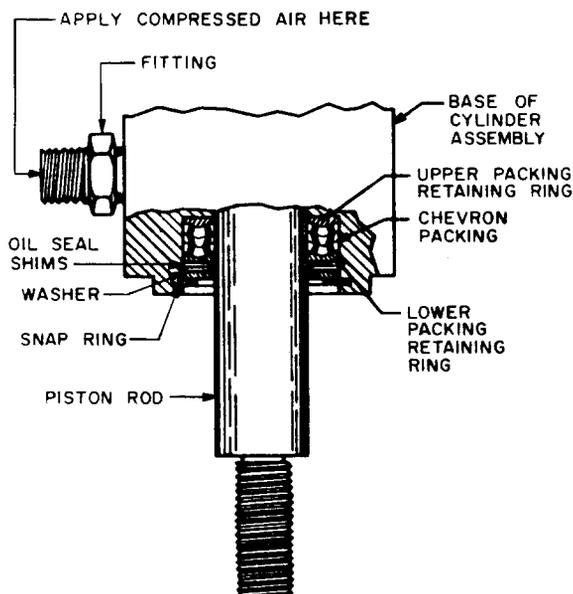

FIG. 21A- CYLINDER FURNISHED INITIALLY—UPPER TUBING ON SIDE OF CYLINDER.
(1) To replace the punch-cylinder chevron packings, remove the punch cylinder involved as covered in 3.18, but do not remove the fittings from the cylinder. On the hole-enlarging punch cylinder, close one of the openings to the tee fitting by placing a piece of cellophane tape over the end of the tubing connected to one end of the tee.
(2) Referring to Fig. 21, punch cylinders may be of the type shown in Fig. 21A or 21B. On the cylinder shown in Fig. 21A, three chevron packings are mounted on the piston rod between the upper and lower packing retaining rings. Below the lower retaining ring is a washer (in most cylinders) and a snap ring which holds these parts in position. In some cases, shims are placed between the washer and lower retaining ring to provide a snug fit of the chevron packing. Some punch cylinders do not have the washer. On these cylinders, shims, if provided, are placed between the snap ring and lower retaining ring.
(8) On the cylinder shown in Fig. 21A, mount the lower packing retaining ring with its concave surface facing the packing. Mount the washer, if provided, and the snap ring. Using the KS-6320 orange stick, lightly press inward on the washer or the lower packing retaining ring if a washer is not provided. If a gap can be detected between the washer or lower retaining ring and the snap ring, remove the snap ring and washer, if provided, and add shims as required to fill the gap. Remount the washer, if provided, and snap ring. If more than slight pressure is required to position the snap ring snugly in its retaining groove, this indicates that too great a thickness of shims has been used. Remove shims as necessary to properly mount the snap ring. Remove the